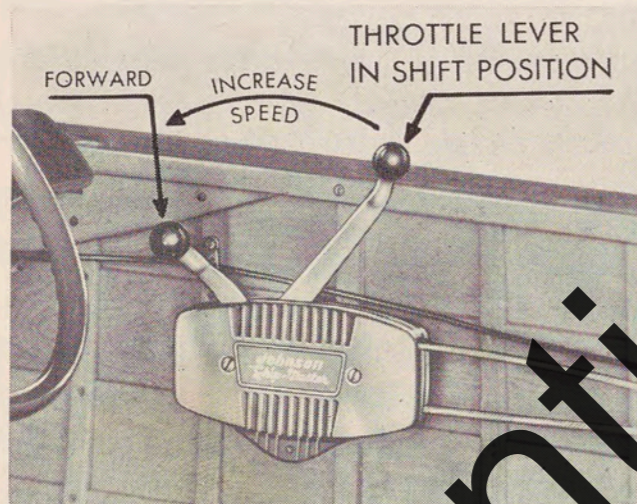
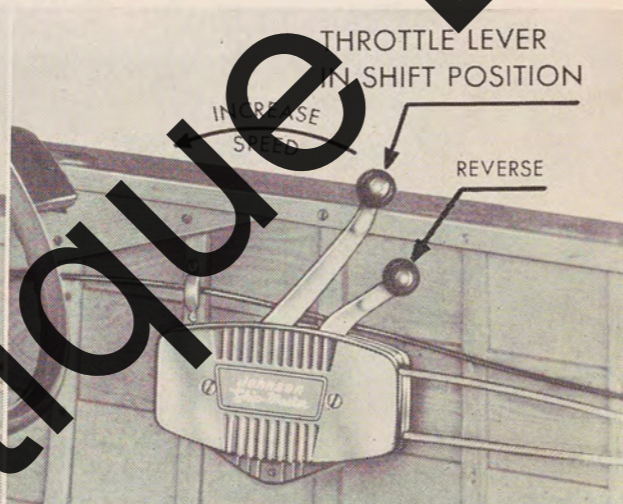

Figure 11
Figure 12
7. Reduce motor speed before shifting—snap shift lever with QUICK ACTION to Forward position (Figure 11) or Reverse position (Figure 12) as desired.